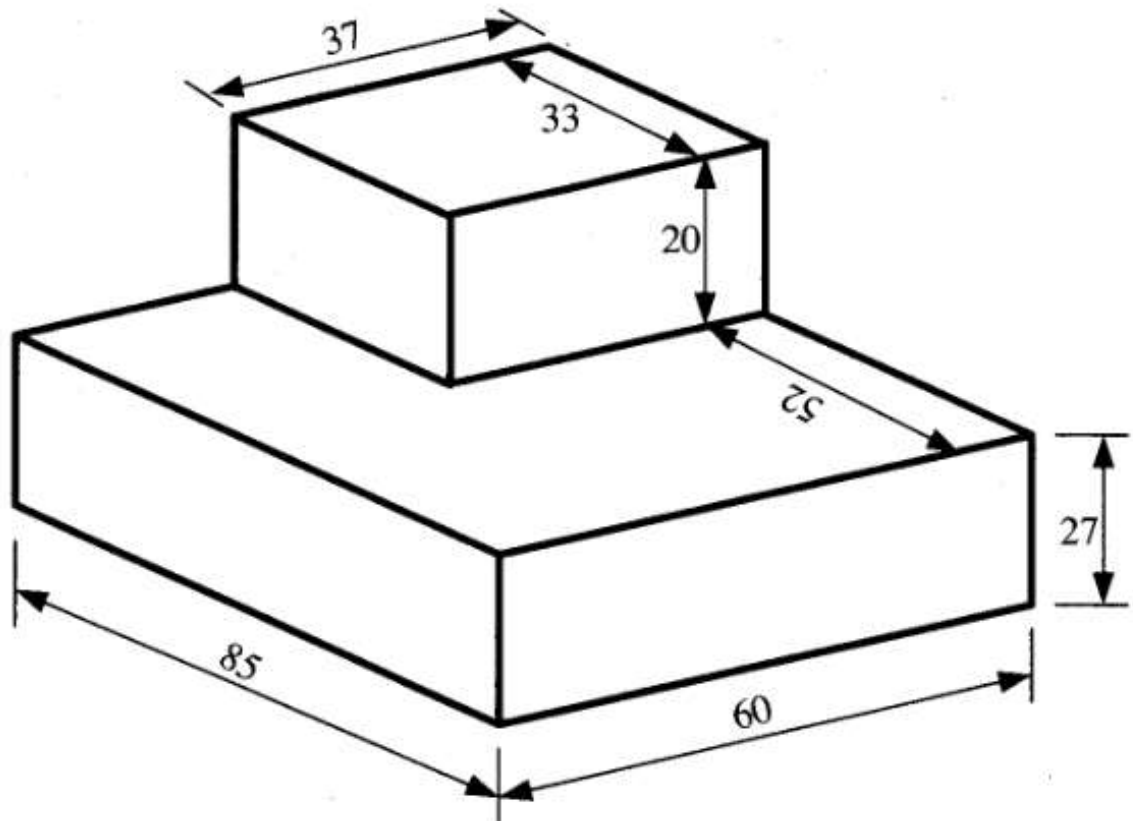

Figure 2
4. A school workshop teacher wants to manufacture a machine component which is similar to the drawing shown in Figure 2. For easier understanding of the diagram, he wishes to change the view in oblique projection and asked you for your assistance. Convert the component in oblique projection as he wishes.